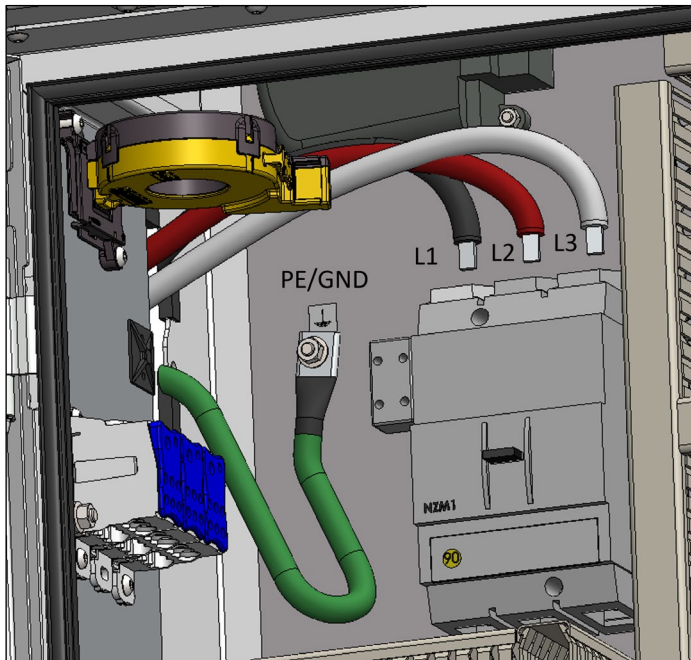

Figure 32: Connect AC cables to main circuit breaker - PE/GND cable to stud
1. Connect the AC cables to the main circuit breaker, see Figure 32.
3. Connect PE/GND cable to the M6 PE stud, see Figure 32.